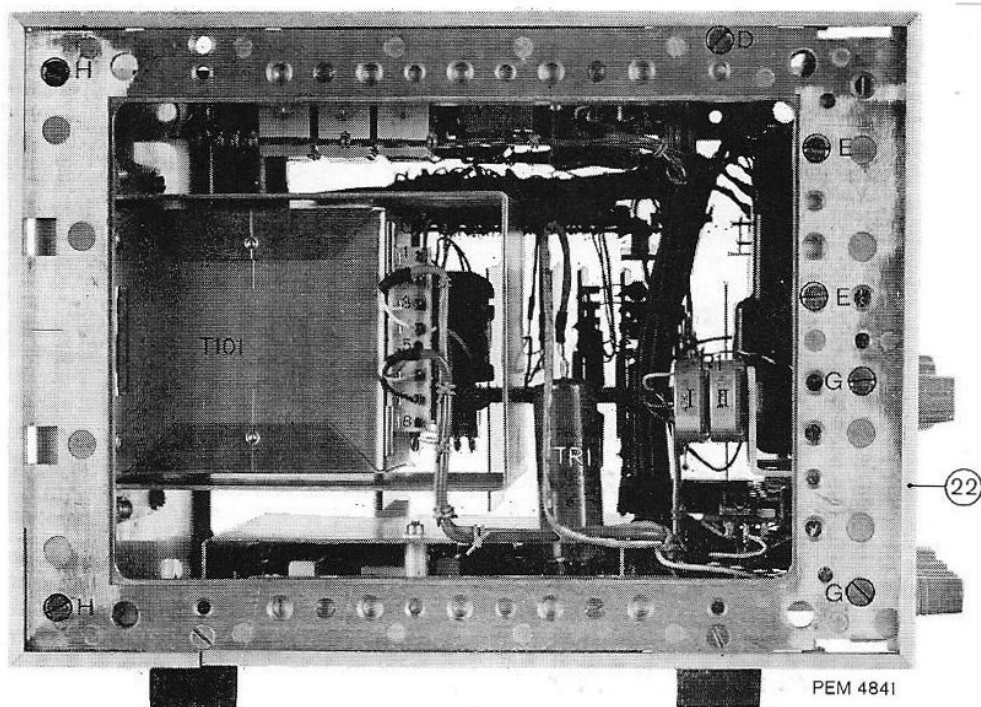

Fig. 17. Left-hand side
- Remove the reinforcement piece by loosening the 2 screws "D" (Figs. 17 and 18).
- Remove the 4 screws "E" (Figs. 17, 18).
- Loosen the fixing screws D, E, G and H at the sides. (Figs. 17 and 18)